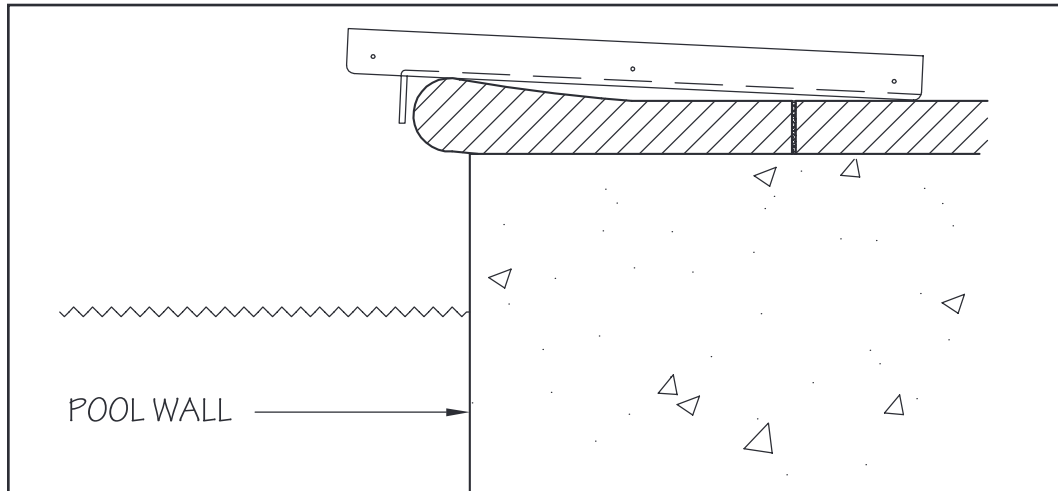

Fig. 8.1
8.2 Position the deck plate bottom onto the pool deck so that the vertical lip of the is seated firmly against the pool coping. The coping **MUST** fully support the plate. The plate will be centered to the Fastlane Pro. If the pool has bullnose coping it is acceptable for the hose cover tray to be slightly out of level as shown in Figure 8.1.